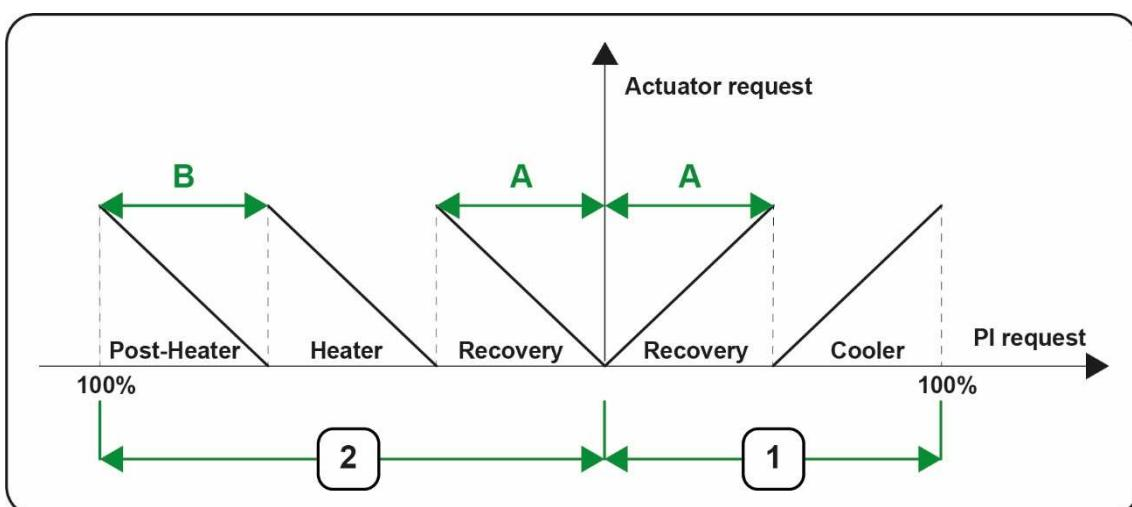

Fig 7 - Temperature regulation
The **Fig 7 - on pag. 32** describes the supply or in cascade temperature regulation case; in the case of return temperature, the recovery unit regulator is not present because the recovery unit is managed by a separate regulator.
- cooling, where the request on the actuators is given in **(1 - Fig 7 - on pag. 32);**
- heating, where the request on the actuators is given in **(2 - Fig 7 - on pag. 32).**
NOTE: Depending on the hardware configuration of the AHU, in **Fig 7 - on pag. 32** the following regulators may not be present:
In **Fig 7 - on pag. 32** the reference parameters are shown using tags (capital letters), the reference parameters for the temperature regulation. See the following table for the correspondence between tags and parameters.